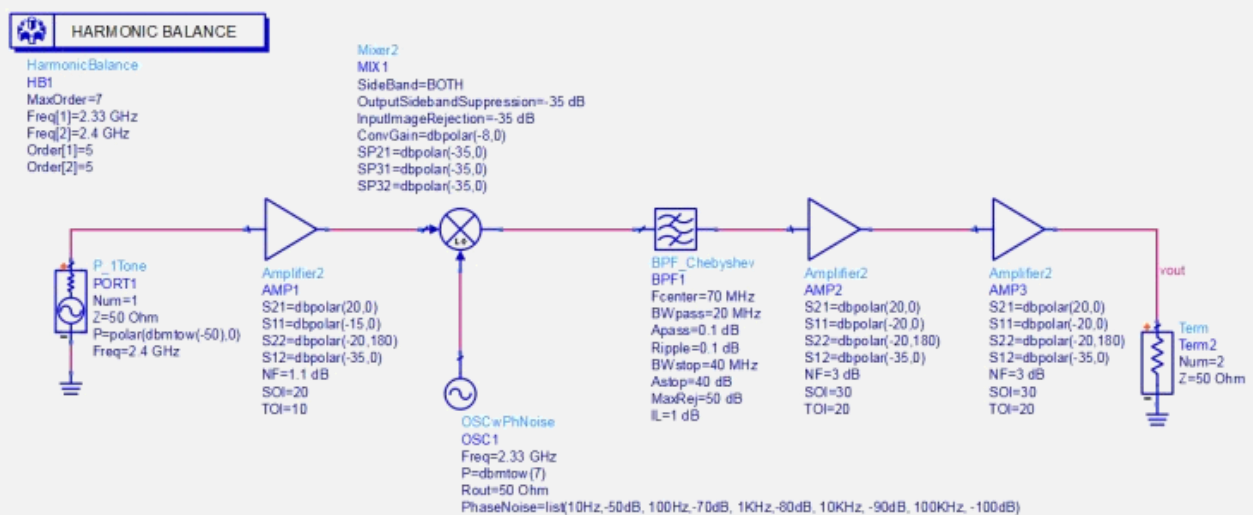

Figure 2. Schematic
- The next step is to connect the RF and LO sources and setup the simulation to observe the system response. Place **P_1Tone** and **Osc** source from the **Sources-Freq Domain** library. Connect the components and set their characteristics as shown in Figure 2. Make sure to change the PhaseNoise list in the Osc source.
- Once completed the receiver system diagram will look like the design shown in Figure 2.